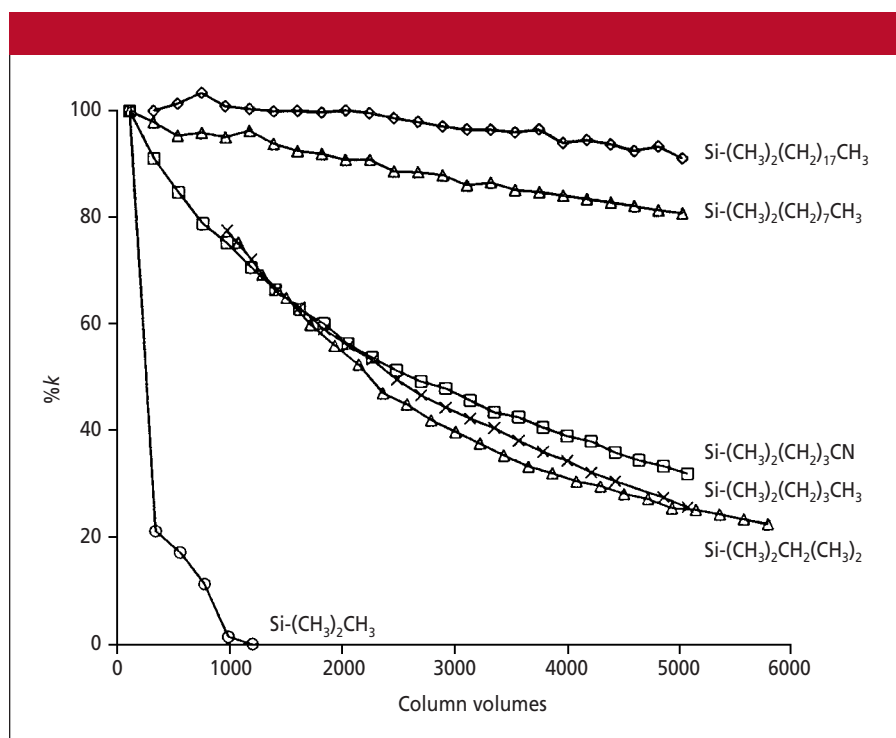

Figure 1: Effect of silane chain length on bonded-phase stability at pH 2. See text for details. (Reprinted from reference 1 with permission.)
Figure 1 shows an example of how bonded phases of various chain lengths deteriorate more quickly at low pH (1). In this case, a gradient was run with a pH 2 mobile phase at 50 °C. Under those conditions, the bond between the bonded phase and the silica surface was hydrolyzed. The retention of a nonpolar compound — 1-phenylheptane — was measured regularly throughout the test time. This neutral compound was retained only by the nonpolar bonded phase, not the exposed silica surface of the packing, so a change in the retention was a good measure of the bonded-phase loss. For example, a 20% change in retention should correlate to a 20% loss in bonded phase.
types of bonded phases. Time is measured in column volumes of mobile phase. For a 150 mm \times 4.6 mm column, the column volume is approximately 1.5 mL, so 1000 column volumes represent about 1500 mL of mobile phase. Figure 1 makes it clear that column stability is related directly to bonded-phase chain length. The common C8 and C18 phases lose 5–10% of their retention in 6000 column volumes — roughly 9 L of mobile phase under aggressive conditions. Shorter-chain columns such as the propylcyano columns deteriorate much more quickly and lose more than 60% of their retention under the same conditions.
Do the data of Figure 1 mean that cyano columns are inherently less stable than C8 or C18 columns? In this test, yes. However, you should consider a few other factors. First, the work described above was reported in 1988, so these data probably were gathered using Type A silica columns rather than the newer Type B columns, which are more stable. Second, the test conditions are quite aggressive, so a higher pH (for example, pH 2.5–3) or lower temperature could reduce the rate of bond cleavage. Third, using a guard column should help protect an analytical column and mitigate the damage.